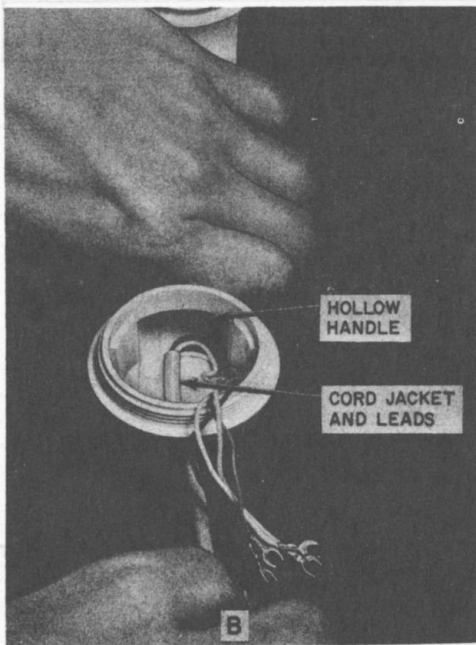

Fig. 11B—Handset Cord Replacement
(2) Pass the leads through hollow handle (folded over), Fig. 11B and C, into the receiver end of handle.